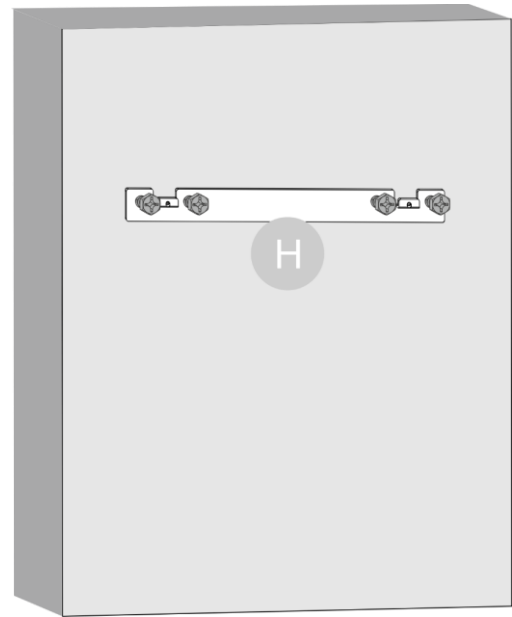

Fig. 19
- 06) Make sure that the **wall bracket (H)** is firmly secured and leveled, as shown in Fig. 19.